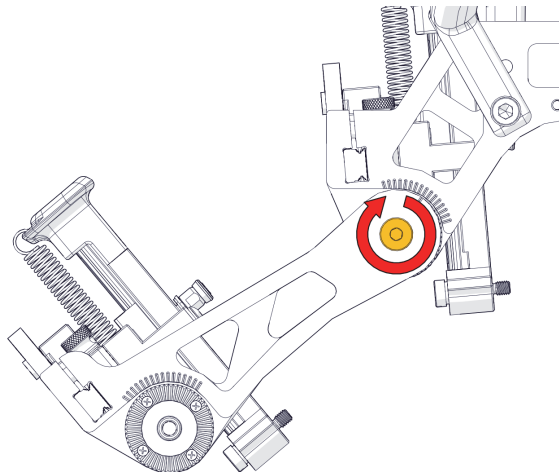

Figure 1-56 Tighten the arm screw
3. Tighten the arm screw (see Figure 1-56 on page 64).